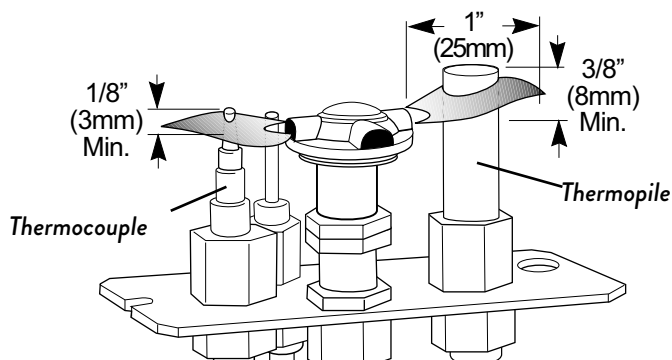

Figure 12.1.
- PILOT FLAME:** You can monitor the pilot flame located behind the burner at the rear of the firebox. The pilot flame should be steady - not lifting or floating. The flame should be blue in color around the pilot hood, with traces of yellow toward the outer edges. Fig. 12.1.